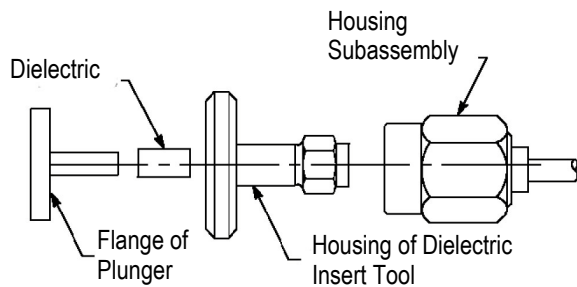

Figure 5
12. Insert the dielectric into the housing of the dielectric insert tool. Place the plunger of the tool into position, and press it until the flange bottoms on the tool housing. See Figure 5.